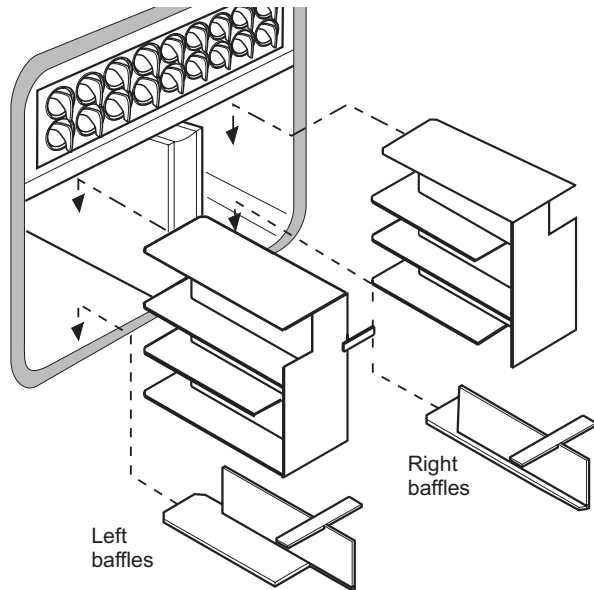

Fig. 24 - 15/26 baffles
- 2 Remove the baffles as shown in Fig. 24, 25 or 26.
- 6 Replace the baffles, ensuring they are correctly fitted. See Fig. 24, 25 or 26.